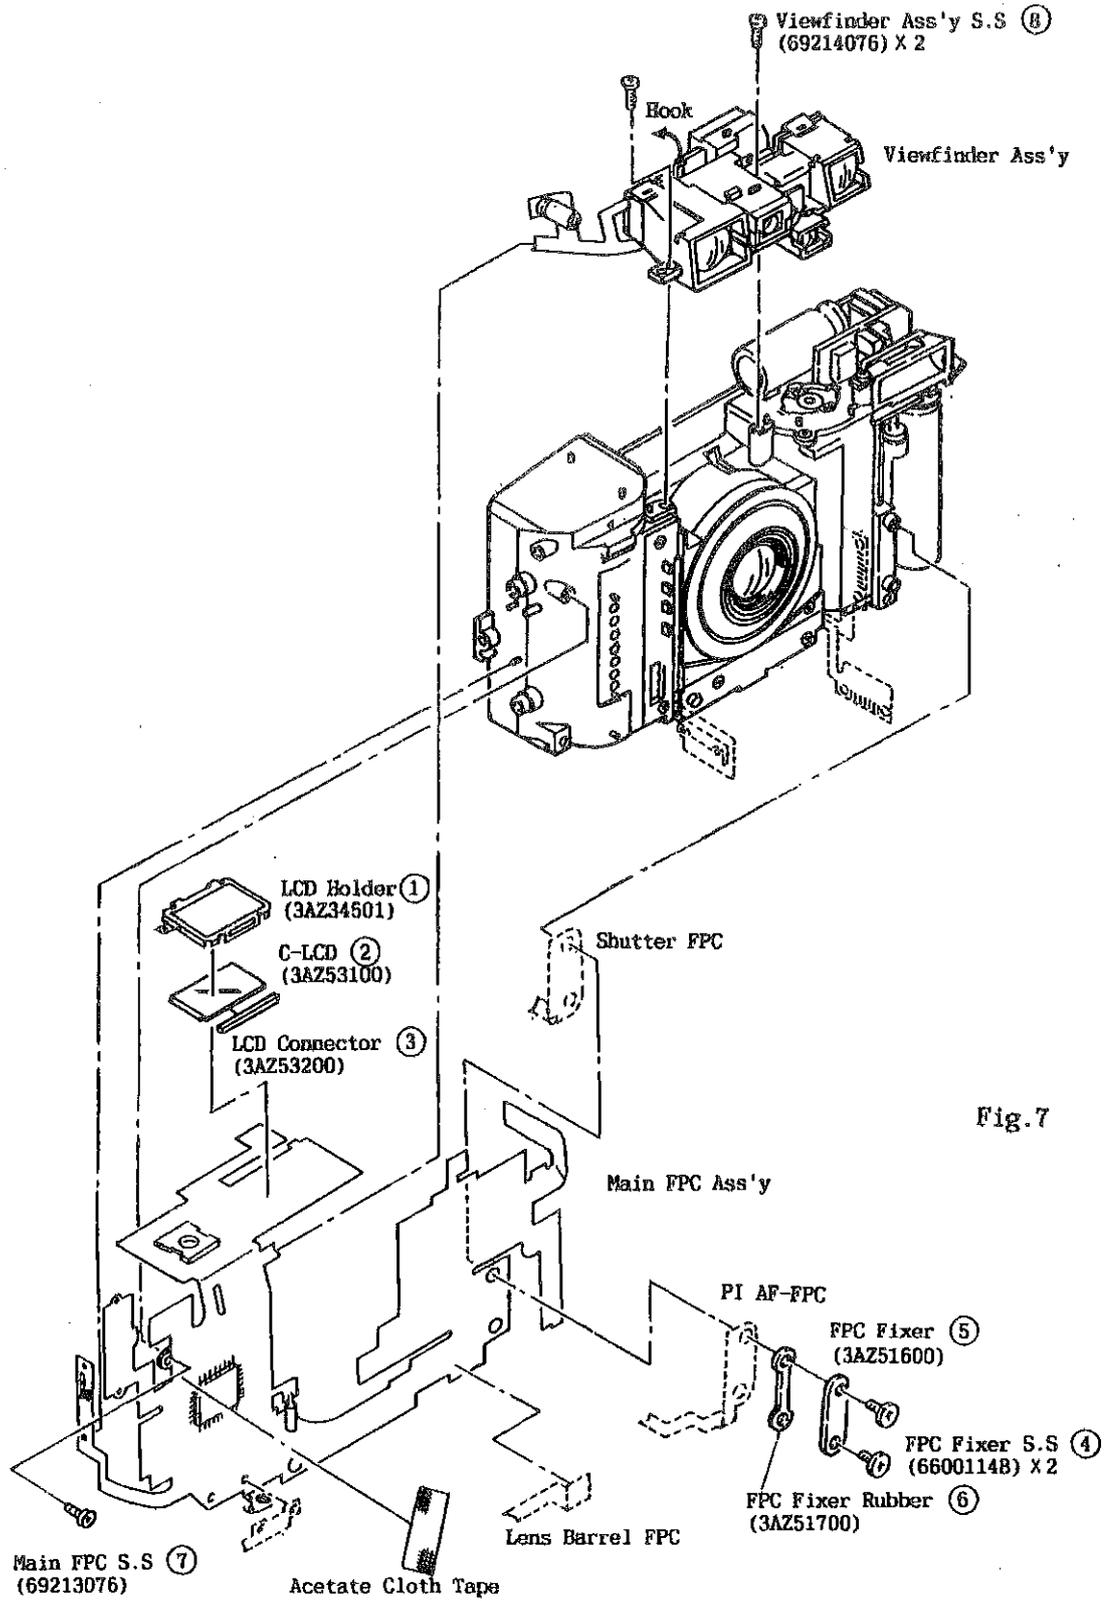

Fig.7
- a) Remove the LCD Holder ① while pushing the hook on the Viewfinder Ass'y with tweezers or a like tool. (See Fig.7)